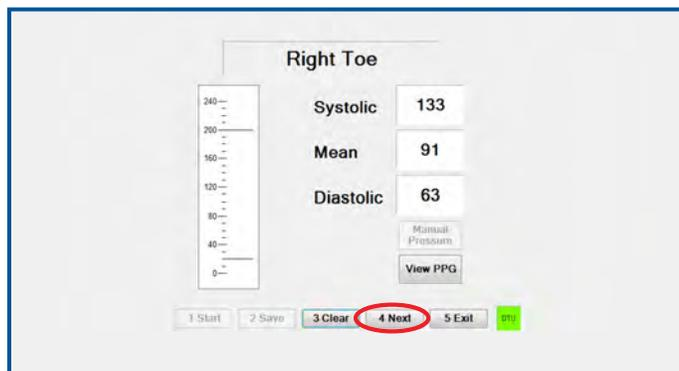

FIGURE 1.26 - Right Toe - “Next” Button
31. Pressures will populate on the Right Toe pressure screen. Click "Save" and "Next" to continue (Figure 1.26, next page).